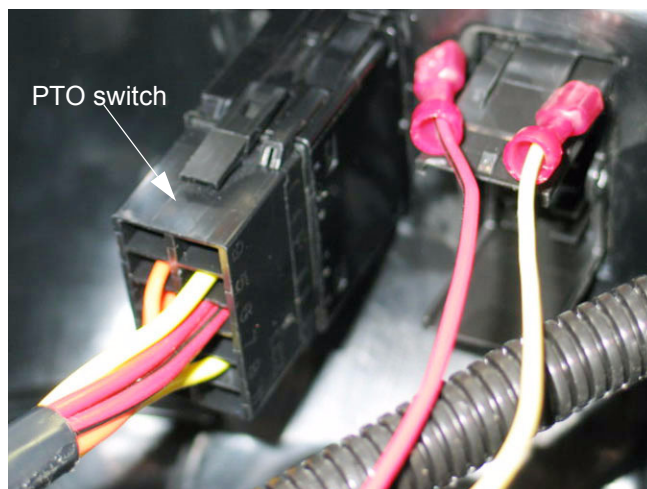

Figure 2.10
2.10. The PTO switch is more complex. See Figure 2.10.